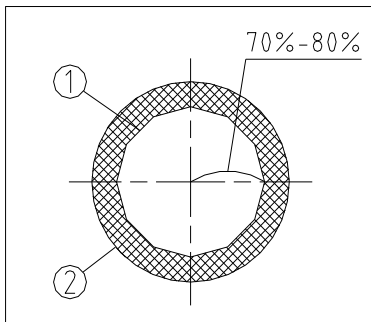

Fig.29
Adjust the aperture diaphragm adjusting ring (3) to control the size of diaphragm. Take off the eyepiece if necessary, observe from the eyepiece tube and adjust the aperture diaphragm adjusting ring (3) until see the image as shown in Fig. 29, to adjust the proportion (see Fig. 29&30, ① in Fig. 29 is the image of aperture diaphragm, and ② is the edge of objective).
The changing direction of the aperture diaphragm is as same as the field diaphragm, adjust it by the aperture diaphragm adjusting pole (1). Adjust the two aperture diaphragm centering screws (2) on the both sides of illuminator with the hexagon spanner, to move the image of aperture diaphragm to the center of the view field. The eyepiece can be taken off when it's necessary to observe from the tube. Adjust the aperture diaphragm adjusting pole (1) until see the image as shown in Fig. 29, to adjust the proportion (See Fig. 29&31).